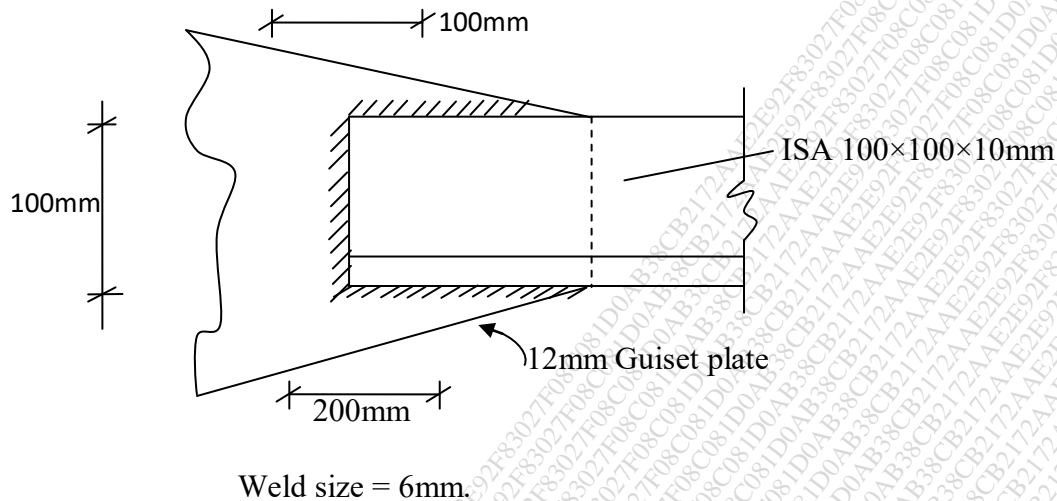

Figure 2
- Q.2 Determine the maximum load which can be applied to the fillet welds as shown in figure 2. Allowable shear stress in  $108\text{N/mm}^2$ .